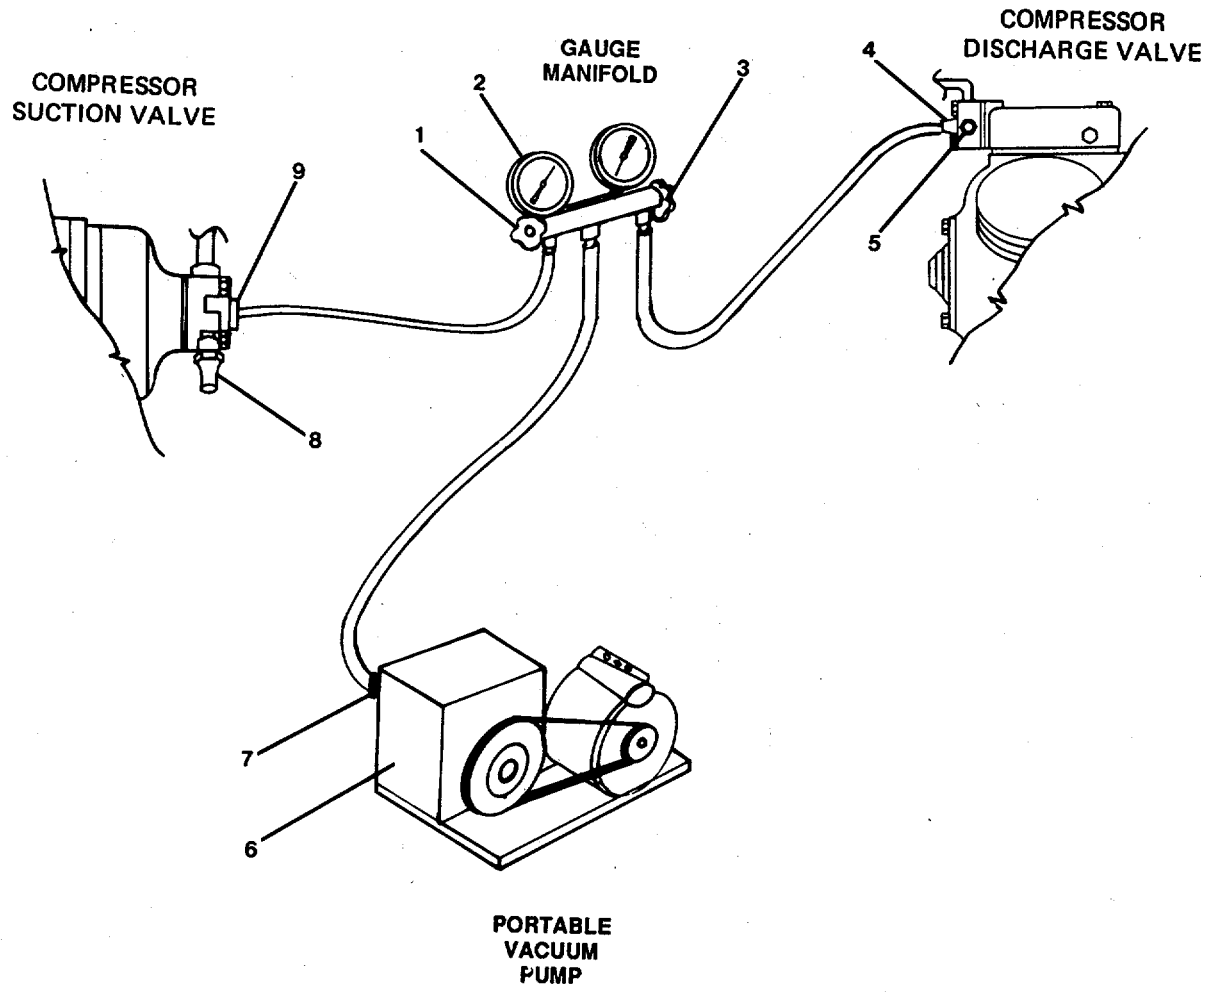

FIGURE 4-23. *Evacuating Compressor.*
- (1) Connect the common hoseline of a portable gauge manifold to the suction connection (7, FIGURE 4-23) of a portable vacuum pump (6).
- (2) Connect the high pressure hoseline on the gauge manifold to the charging port (4) on the discharge valve.
- (3) Connect the compound (suction pressure) hoseline of the gauge manifold to the charging port (9) on the suction valve.
- (4) Make sure caps (5) and (8) are removed for access to valve stems.
- (5) Close gauge port handwheels (1) and (3) fully clockwise.
- (6) Start the portable vacuum pump (6). Open gauge port handwheels (1) and (3) counterclockwise one-half to one turn.
- (7) Watch the combination gauge (2). When the pressure has decreased to 3 inches vacuum on the gauge, close gauge port handwheels (1) and (3) fully clockwise.
- (8) Turn the portable vacuum pump OFF.
- (9) Disconnect the common hoseline on the gauge manifold from the suction connection (9) on the vacuum pump (8).
- (10) The compressor has now been evacuated and is ready to have R-22 refrigerant charge added.